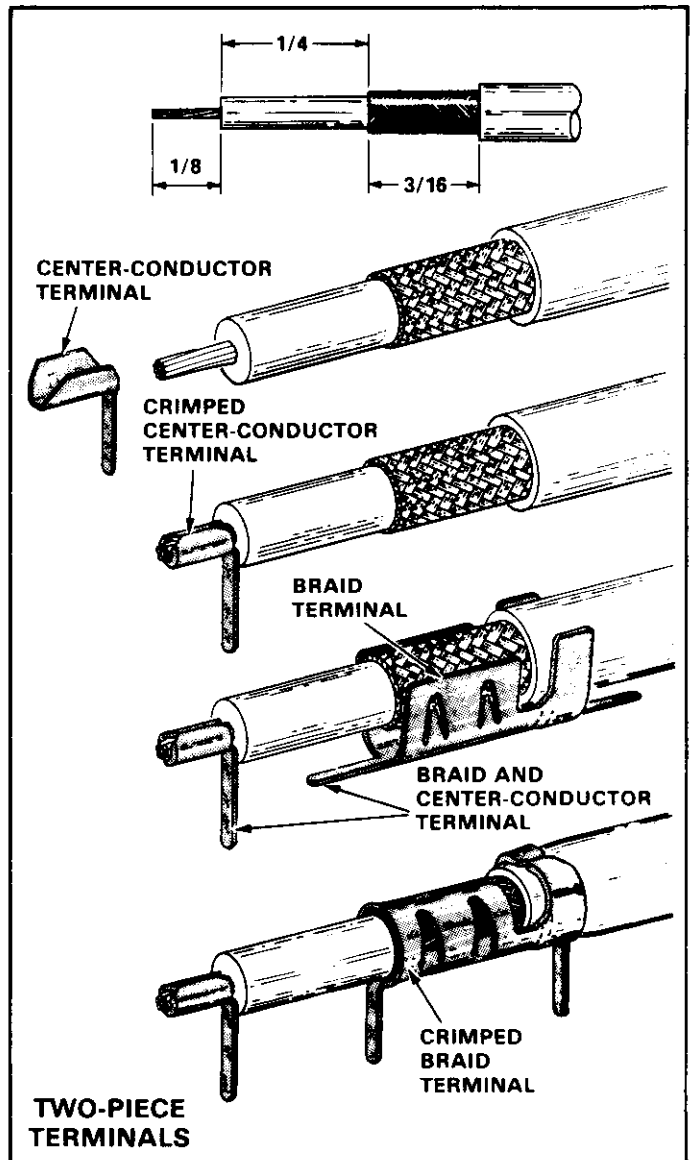

Fig. 5
1. Strip cable to dimensions shown in Figure 5.
2. Bend tab on center-conductor terminal 90°. See Figure 5.
4. Place cable with crimped center conductor into braid barrel of terminal in a straight downward motion until braid is seated and outer insulation is seated in insulation barrel. See Figure 5.